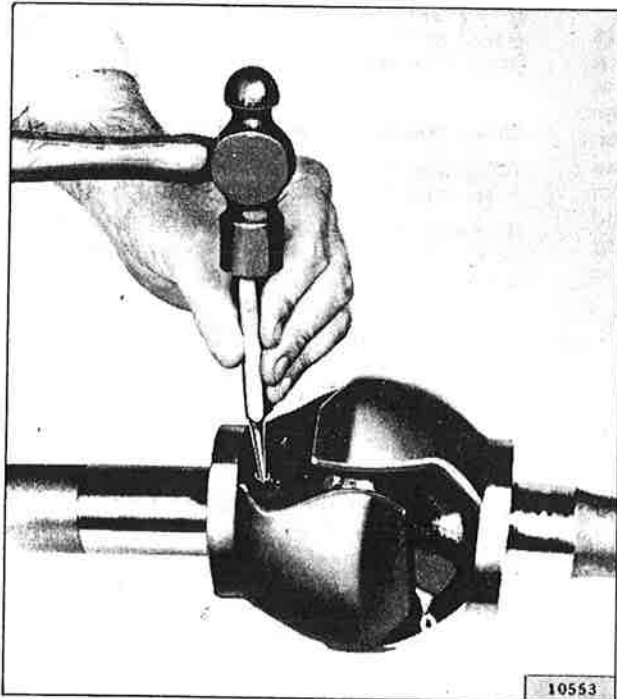

FIG. 223 INSTALLING BENDIX JOINT LOCK PIN
g. Install the retainer pin (lock pin) and prick punch both ends to securely lock it in place. Always use a new retainer pin if available. See Fig. 223.